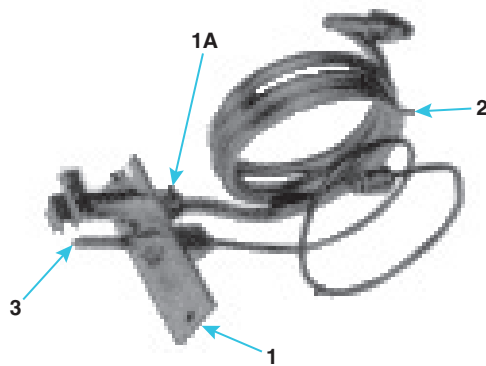

Figure 8. Horizontal Match-Lit Pilot Replacement Kit (Refer to Table 17)
- Horizontal match-lit pilot kits (see Figure 8) are available for models X, XE, HX, HXE, CX, CXE, HCX, and HCXE manufactured from SEP 1973 to 2003.